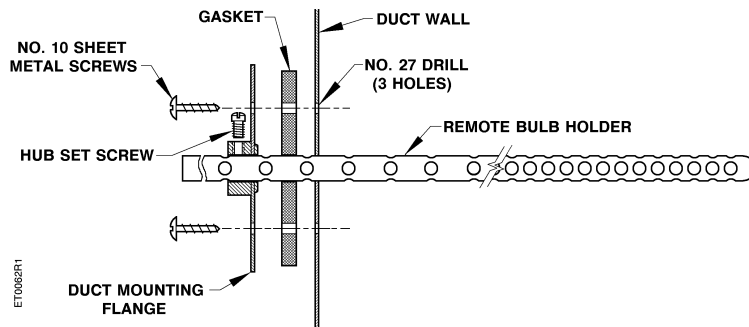

Figure 8. Remote Bulb Holder Kit 808-517.
High Temperature Detection Thermostat (Figure 8)
3. Place the gasket against the duct. Align the holes in the gasket and duct mounting flange with the holes in the duct. Attach with sheet metal screws provided in the kit. See *Figure 8*.